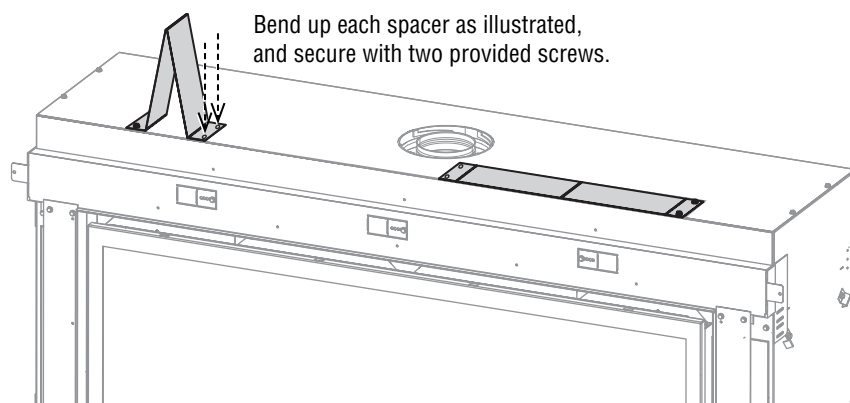

Figure 7-1
1. Assemble the top spacers (**Figure 7-1**).
Assemble **TOP SPACERS** before installing fireplace (*Figure 7-1*).